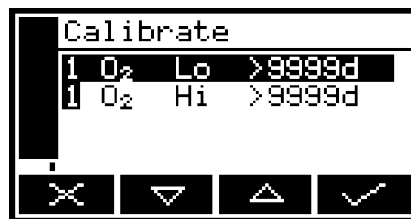

Figure 20: The Calibrate screen
3. Press the  soft key on the Measurement screen (or select the "Calibrate" option from the Menu screen) to display the Calibrate screen (see Figure 20).
Note that the "9999d" field of the screen shown in Figure 20 will identify the period of time that has elapsed since the last calibration, and can be in any of the following forms: